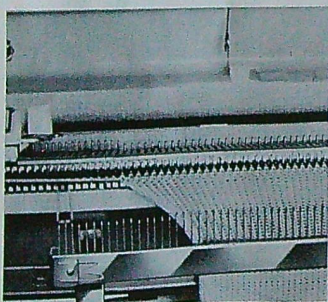

Fig. 43
- 1) Make two rings with yarn and hang the cast-on comb on the gate pegs by rings. The distance of the gate pegs and the hooks of the cast-on comb is decided by the length of the cable. (See Fig. 43 and 44)